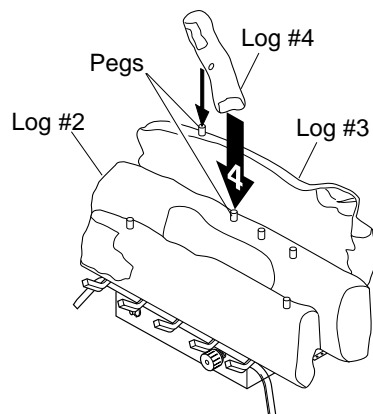

Figure 30 - Installing Crossover Log (#4)
4. Locate holes on the bottom of crossover log (#4). Slide front hole onto the left peg (CCL3924NT or CCL3930NTA) or middle peg (CCL3018NT) on the middle log (#2) and the peg on the back log (#3). See Figure 30 for placement.